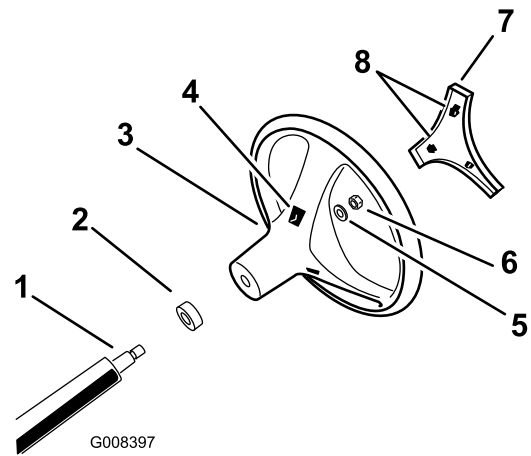

Figure 3
4. Secure the steering wheel to the shaft with the locknut and torque the locknut to 24 to 29 N·m (18 to 22 ft-lb) as shown in Figure 3.
5. Align the tabs of the cover with the slots in the steering wheel and snap the cover onto the steering wheel hub (Figure 3).